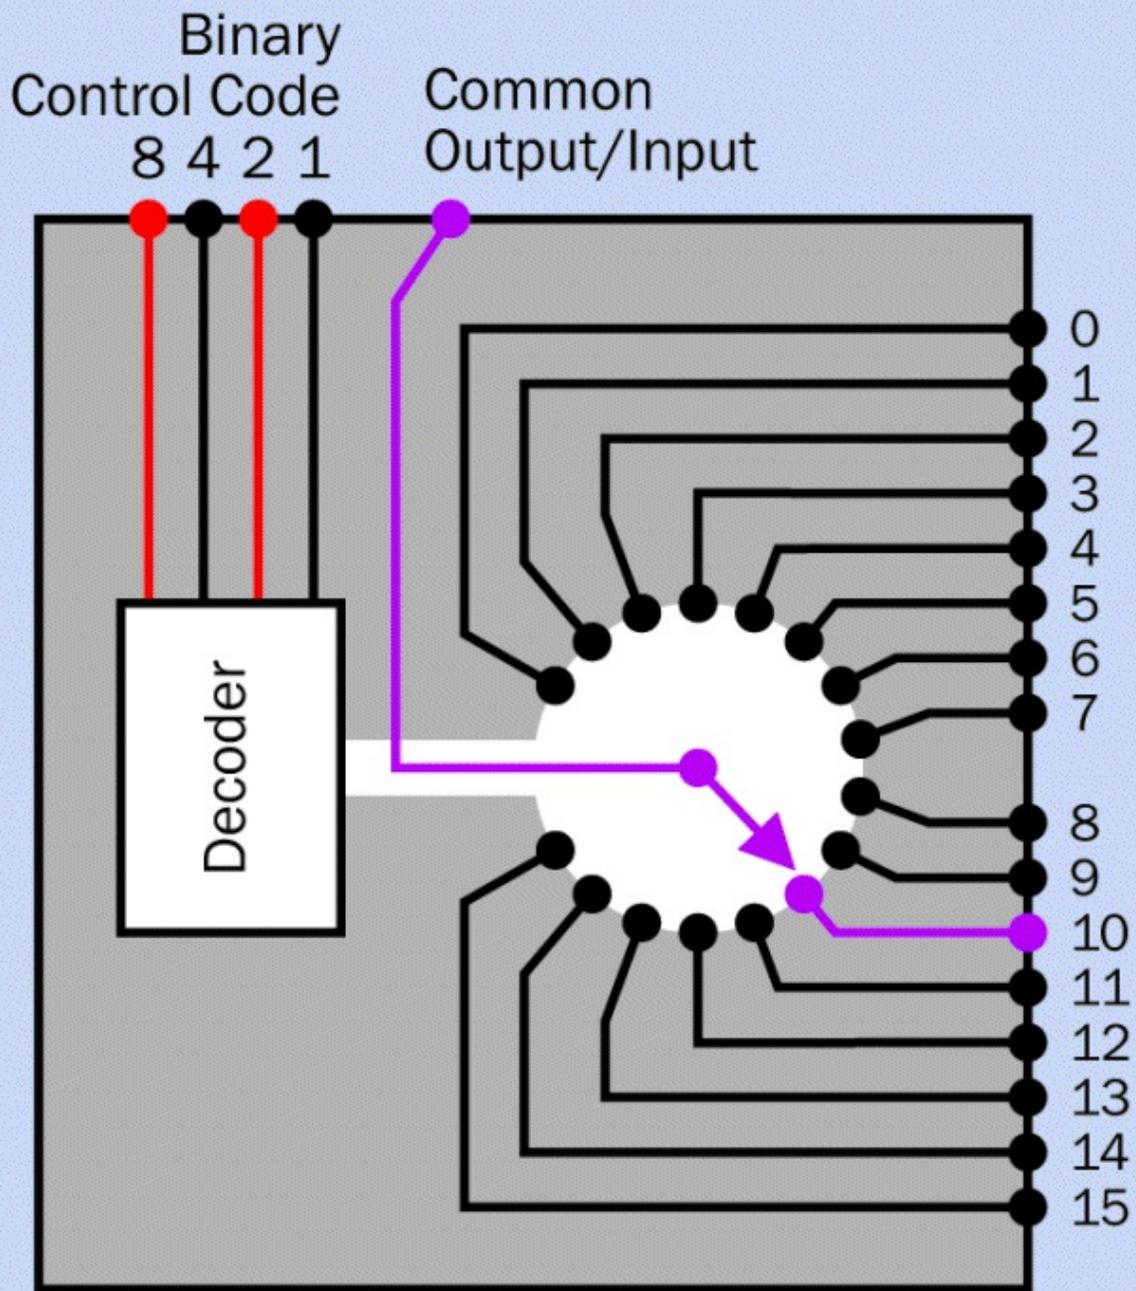

Figure 21-2. A multiplexer works like a solid-state rotary switch. The purple connection is established by the binary code applied to the control inputs.
- A good way to think of a multiplexer is to imagine it as a solid-state rotary switch, as suggested in **Figure 21-2**. In this figure, control pins with values 2 and 8 have been arbitrarily selected, making an internal connection between channel 10 and the common output/input.